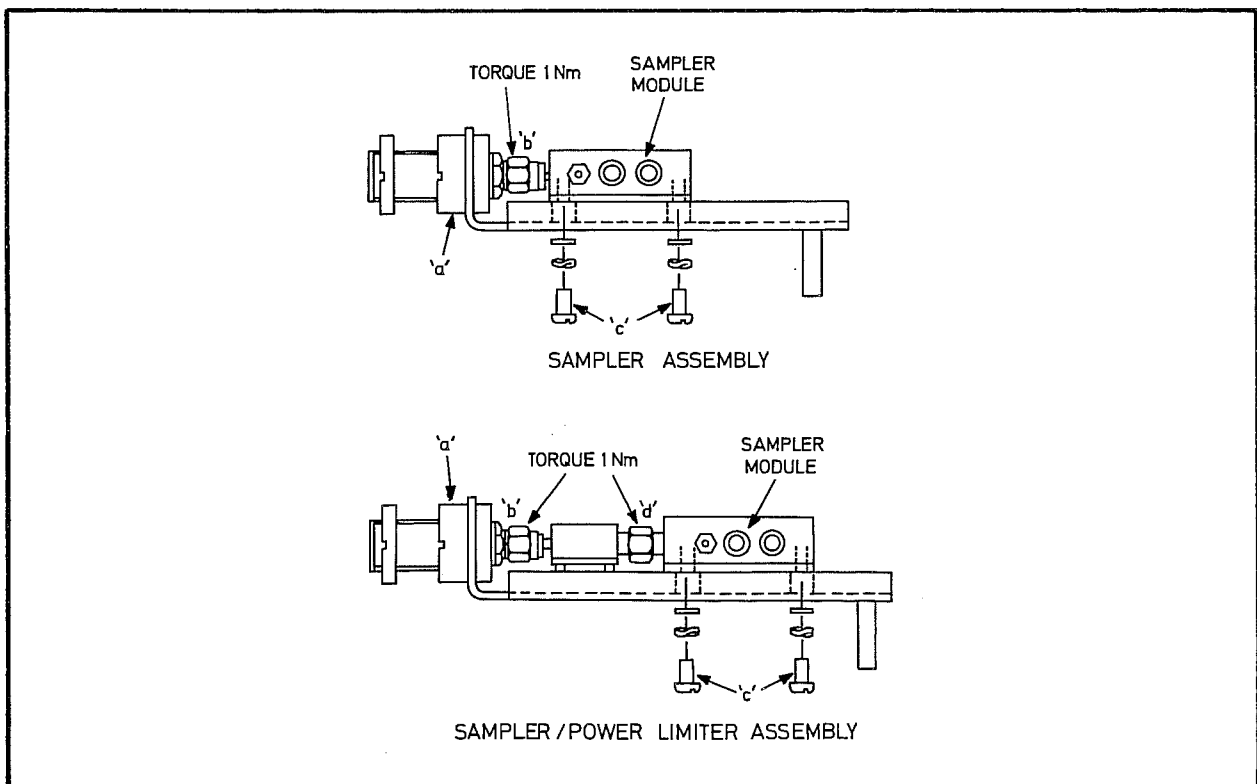

Fig. 7.1 Sampler and Sampler/Power Limiter (OPT 11) Assemblies
- Refer to Fig. 7.1 when removing the module. Proceed as follows:
- (1) Loosen the two screws 'c' securing the Sampler to the bracket.
- (2) Disconnect the SMA connector 'b' from the Sampler Module.
- (3) Remove the Sampler securing screws and lift the module clear of the bracket.
- 23 Refer to Fig. 7.1 when replacing the module. Proceed as follows:
- (1) Loosen Input C connector ring nut 'a', then retighten finger-tight.
- (2) Connect Sampler Module 17-1102 to connector 'b' finger-tight only.
- (3) Fit the Sampler securing screws 'c' finger-tight only.
- (4) Tighten connector 'b' to 1 Nm using the SMA torque wrench.
- (5) Fully tighten Input C connector ring nut.
- (6) Fully tighten the Sampler securing screws 'c'.
- 24 Refer to Fig. 7.1 when removing the module. Proceed as follows:
- (2) Disconnect the SMA connector 'd' from the Sampler Module.
- 25 Refer to Fig. 7.1 when replacing the module. Proceed as follows:
- (2) Connect Sampler Module 17-1102 to connector 'd' finger-tight only.
- (4) Tighten connector 'd' to 1 Nm using the SMA torque wrench.
- (5) Fully tighten Input C connector ring nut 'a'.
26 Refer to Fig. 7.1 when removing the module. Proceed as follows:
27 Refer to Fig. 7.1 when replacing the module. Proceed as follows: